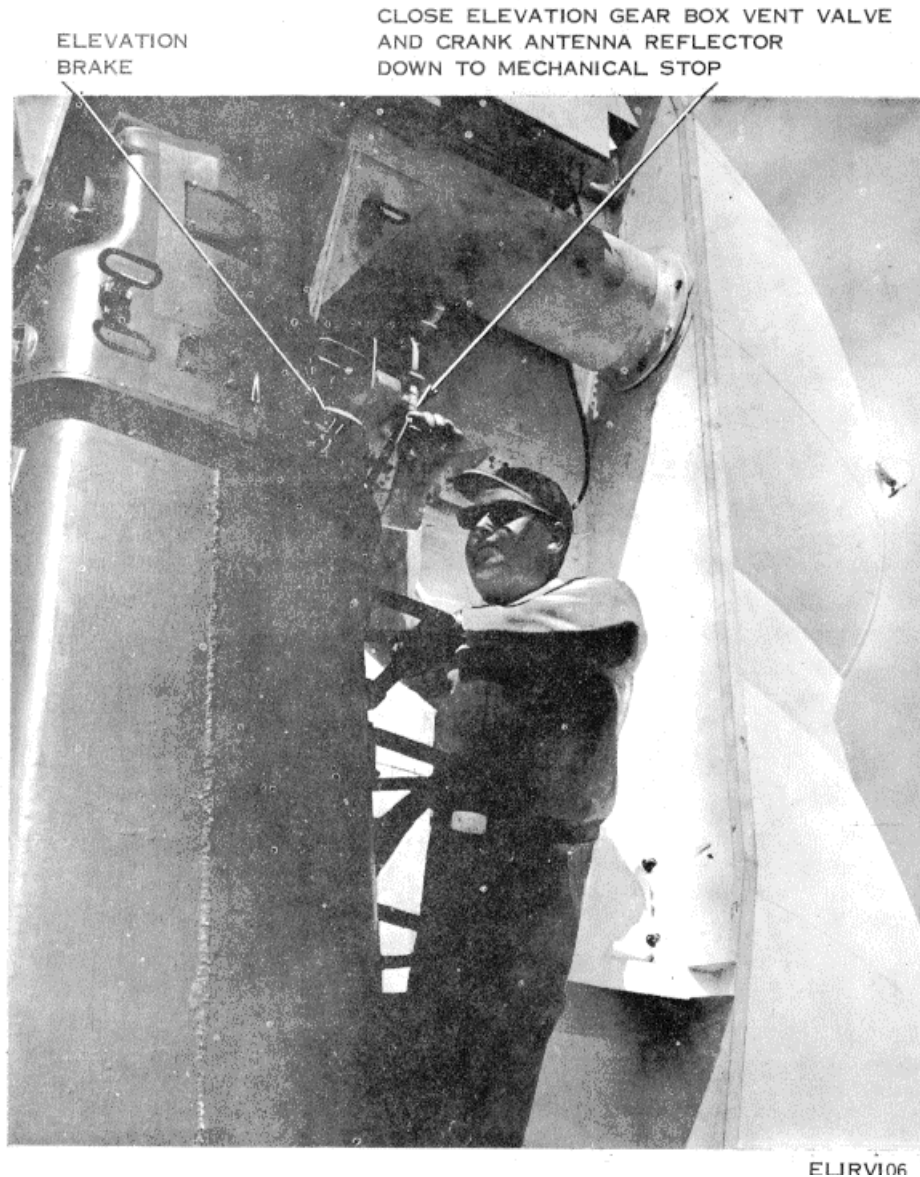

Figure 5-3. Handcranking antenna to a mechanical stop.
(8) Release the elevation brake as illustrated in figure 5-3, and crank the antenna down to the mechanical stop.
(9) Engage and lock the elevation brake.